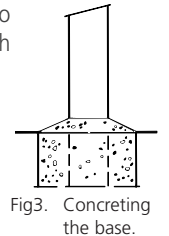

Fig3. Concreting the base.
- Mix sufficient concrete to fill the post hole according to the manufacturer's instructions, fill the hole and smooth the surface, angling the concrete down from the sides of the post for drainage (see Fig 3).